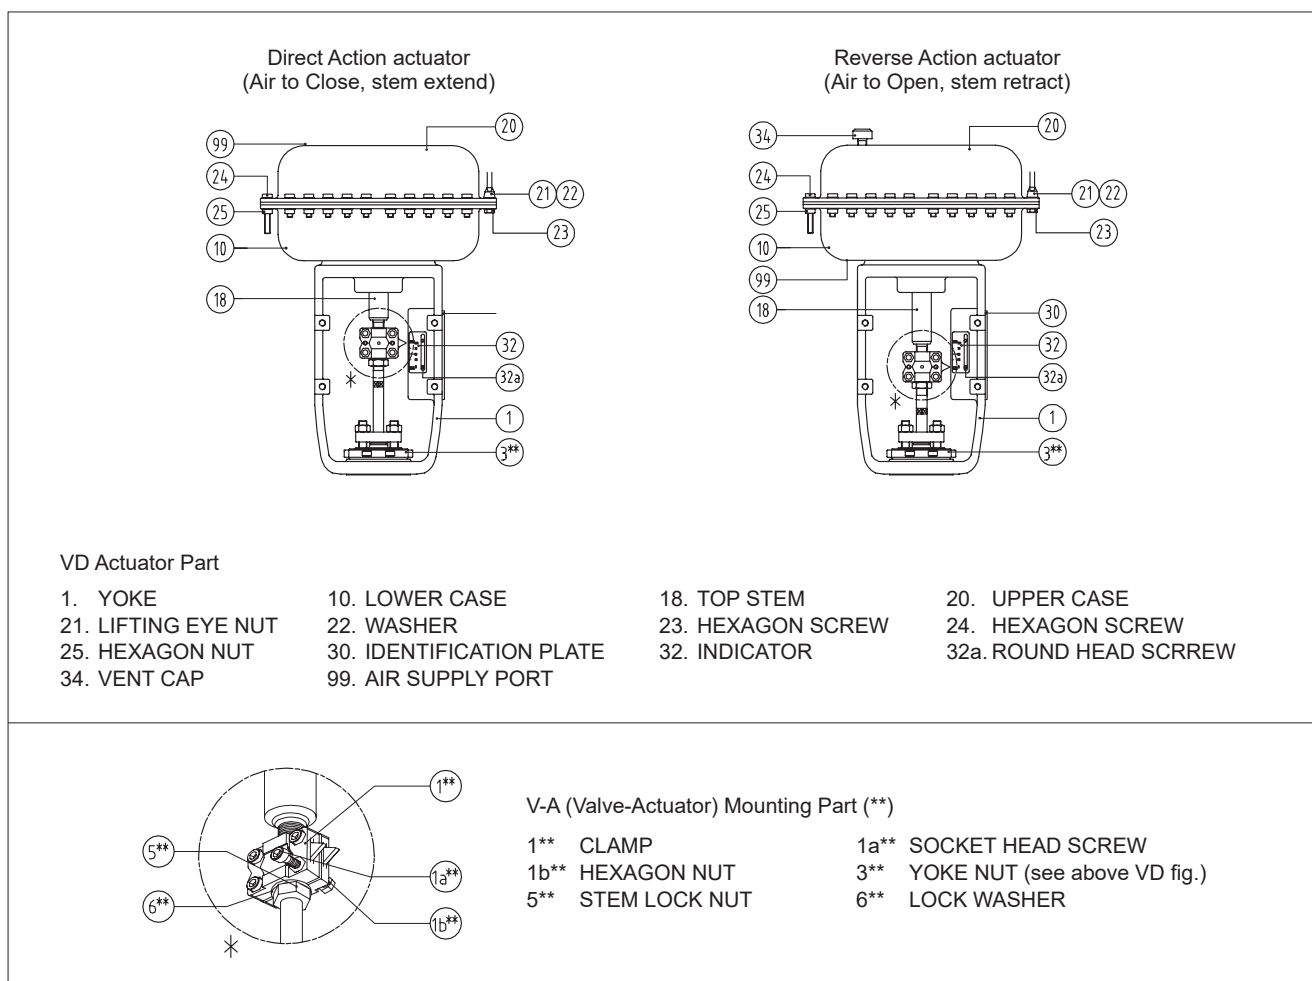

Fig. 14 VD Actuator
A. Actuator removal for Reverse <air to open, stem retract> actuator (Fig. 14)